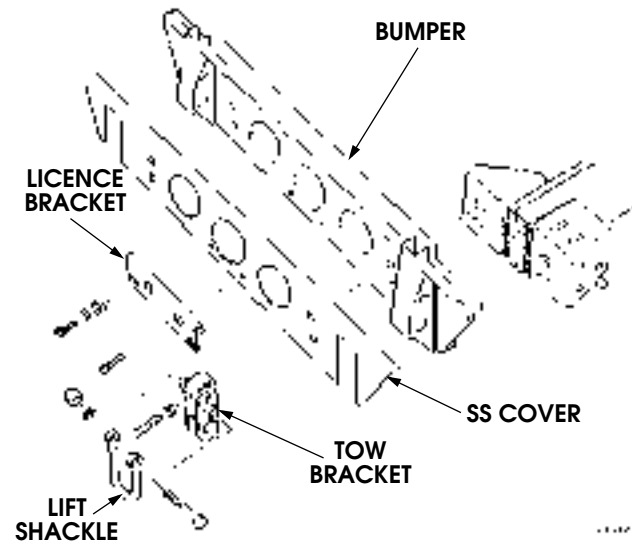

Figure 13-82: SS Front Bumper Cover W/O Winch
1. Remove two bolts and the licence plate mount bracket (See Figure 13-82).